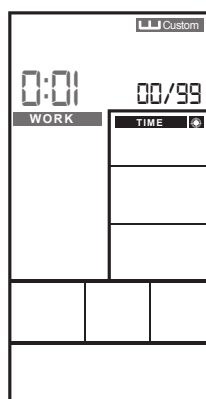

Figure 33
- 2 The TIME continues lighting up, WORK and 0:01 will flash, press UP/DOWN to set training time within 0:00~9:59 circularly (Figure 33). Press ENTER to confirm along with buzzer beeps 1s and INTERVAL CUSTOM continues lighting up.